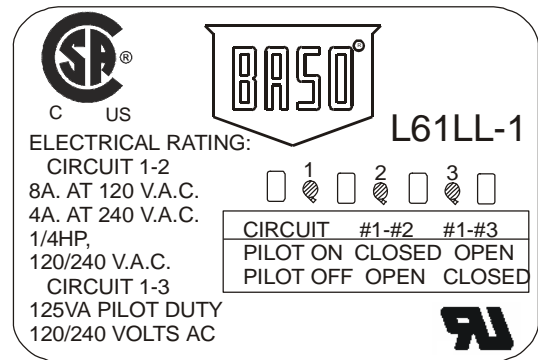

Figure 1: L61LL-1 Product Label
5. Push the circuit wires through the conduit opening on the bottom of the L61LL-1, strip the ends of the wires just enough to put the bare wire under the terminal screws, and connect the circuit wires according to the appliance manufacturer's instructions or the wiring information on the label (see Figure 1).